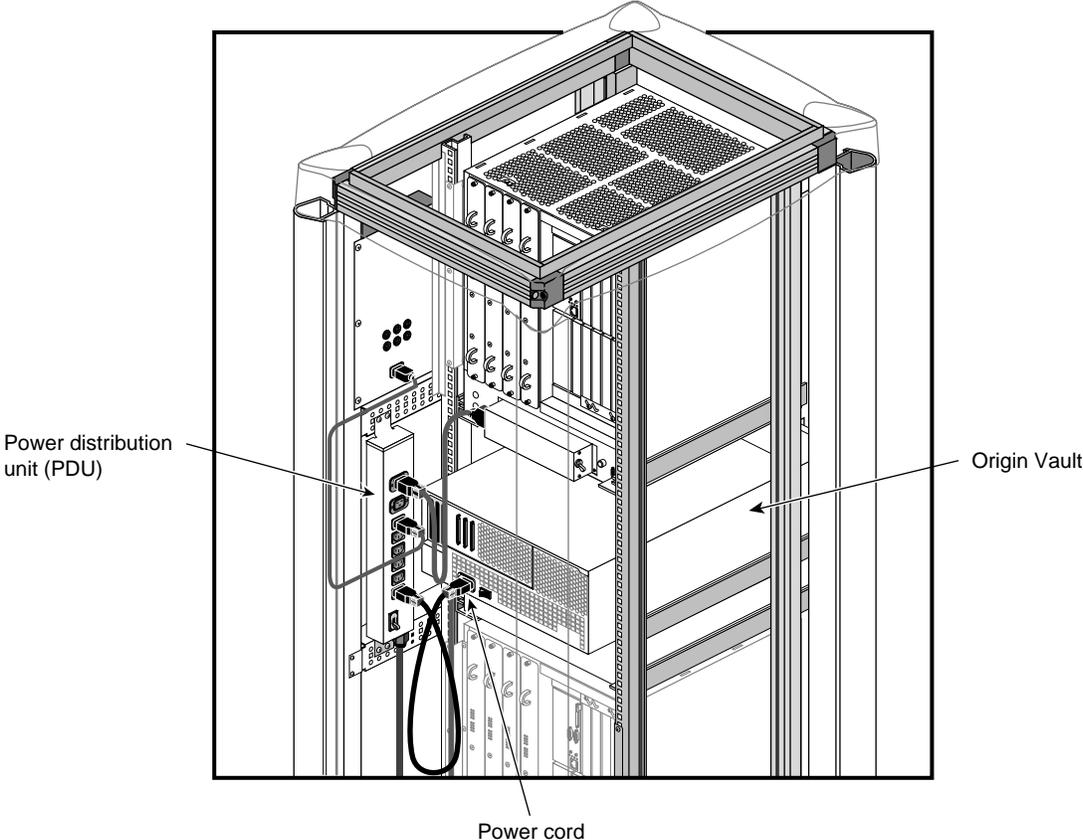

Figure 3-2 Connecting the Rackmount Power Cable
1. Connect the Origin Vault power cord to the rack's power distribution unit (PDU); see the example in Figure 3-2.